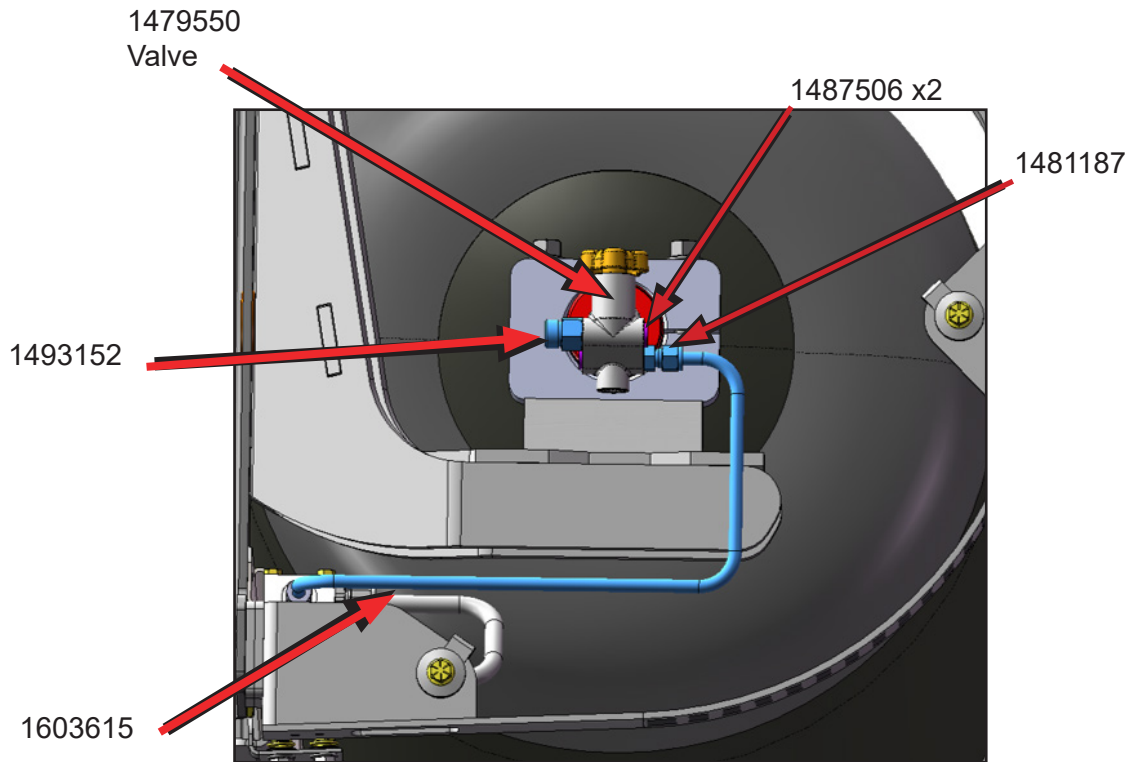

Figure 4
7. Install replacement fittings, plugs, tubes, and new OMB valve according to the illustration below (Figure 4).